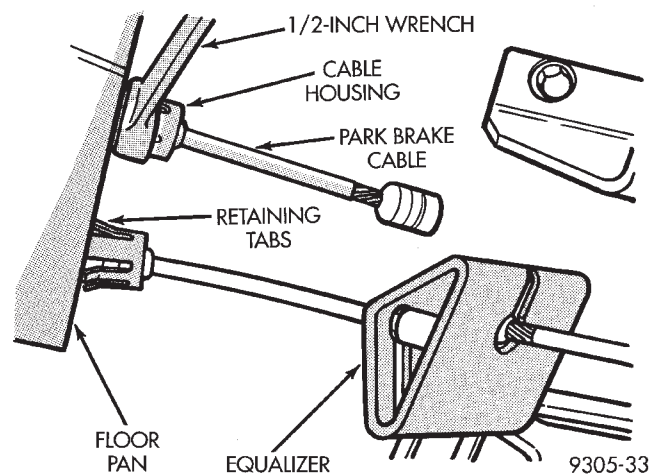

Fig. 7 Park Brake Cable Removal From Floor Pan
(13) Remove rear park brake cable from vehicle floor pan using the following procedure. Disconnect rear park brake cable requiring replacement from equalizer (Fig. 7). Slip the box end of a 1/2 inch over end of park brake cable (Fig. 7). This will compress retaining tabs on end of park brake cable housing. Using a screw driver, press on end of park brake cable housing to remove cable from floor pan of vehicle.